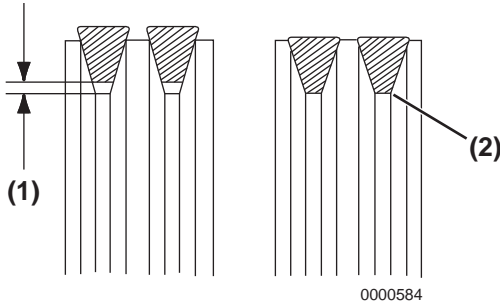

Figure 8-11
8. Inspect the condition of the V-belt. There must be clearance (**Figure 8-11, (1)**) between the V-belt and the bottom of the pulley groove. If there is no clearance (**Figure 8-11, (2)**) between the V-belt and the bottom of the pulley groove, replace the V-belt.